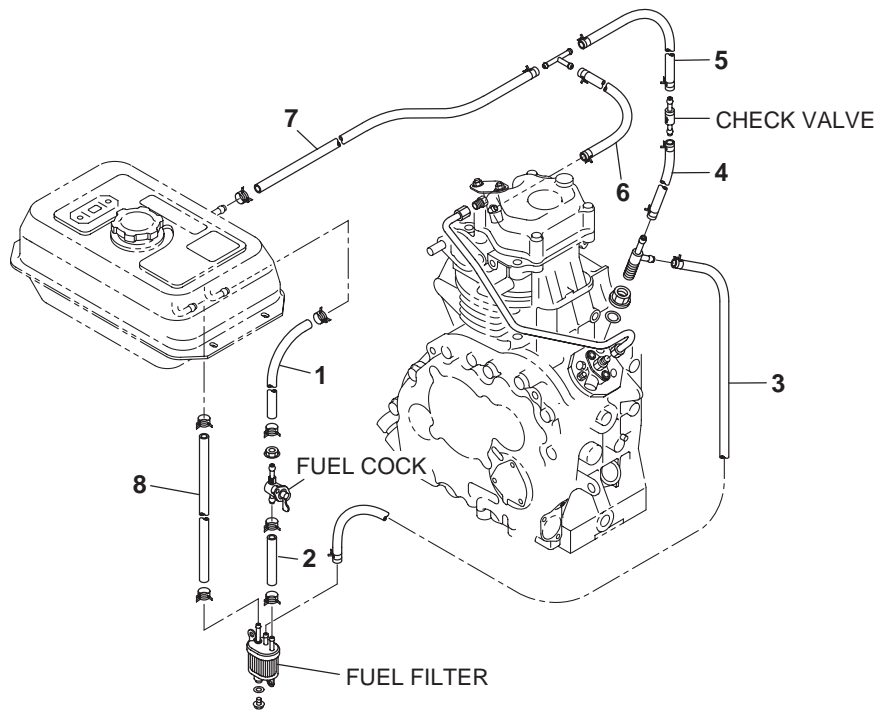

Fig. 10-47
(See Fig. 10-47.)
- (4) Connect fuel pipes between fuel tank, fuel cock, fuel filter and fuel injection pump. (See Fig. 10-47.)